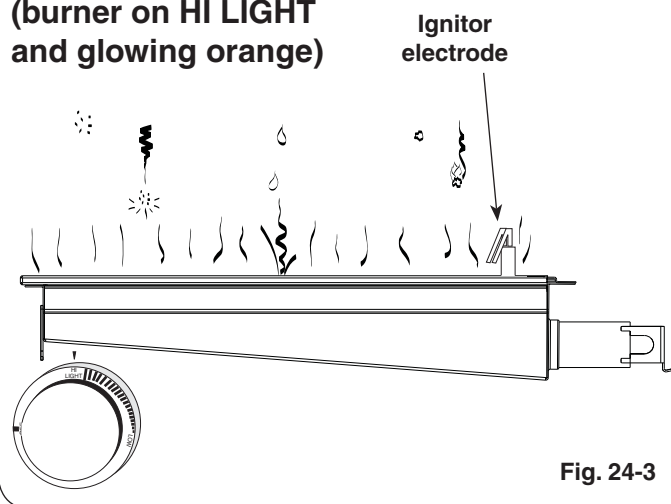

Fig. 24-3
- **DO NOT place food on the cooking grid until the IR burner glows orange (Fig. 24-3).** Drippings are heated and evaporate instead of sticking to and impairing burner function.